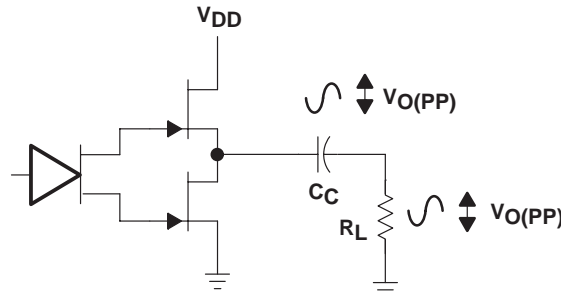

Figure 35. Single-Ended Configuration
In a typical computer sound channel operating at 5 V, bridging raises the power into a 8-Ω speaker from a singled-ended (SE) limit of 250 mW to 1 W. In sound power that is a 6-dB improvement — which is loudness that can be heard. In addition to increased power there are frequency response concerns, consider the single-supply SE configuration shown in Figure 35. A coupling capacitor is required to block the dc offset voltage from reaching the load. These capacitors can be quite large (approximately 40 μF to 1000 μF) so they tend to be expensive, occupy valuable PCB area, and have the additional drawback of limiting low-frequency performance of the system. This frequency limiting effect is due to the high pass filter network created with the speaker impedance and the coupling capacitance and is calculated with equation 2.